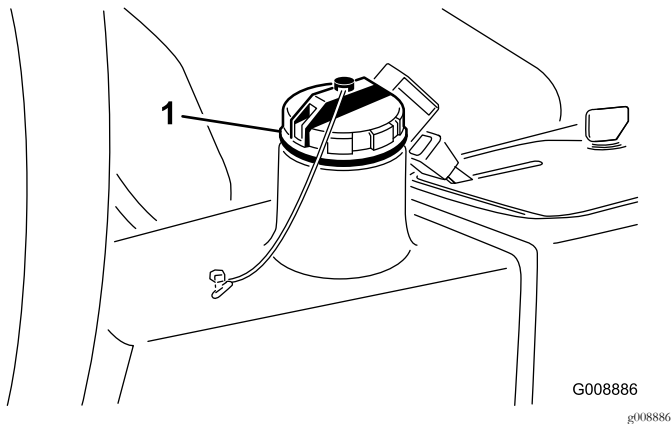

Figure 42
2. Clean the area around the filler neck and cap of the hydraulic-fluid tank (Figure 42) and remove the cap.